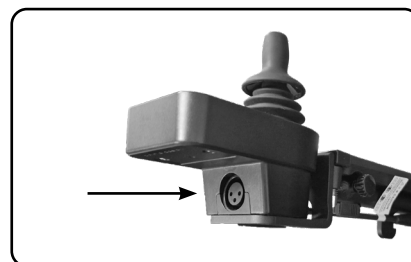

Fig. 12
2. Plug the charging cable into the charging port on the controller, located on the under-front side of the joystick (Fig. 12)